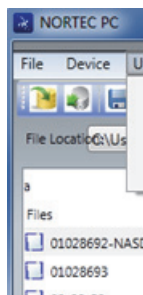
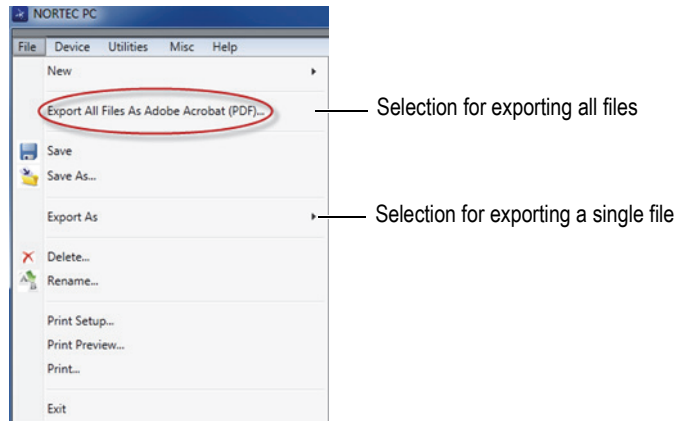

Figure 6-14 Files in the left pane of the NORTEC PC window
Figure 6-15 The File menu
- ◆ Select the file in the left pane of the NORTEC PC window (see Figure 6-14 on page 313), and then select **Export As > PDF** (see Figure 6-15 on page 314)
- ◆ On the NORTEC PC File menu, select **Export All Files As Adobe Acrobat (PDF)** [see Figure 6-15 on page 314].